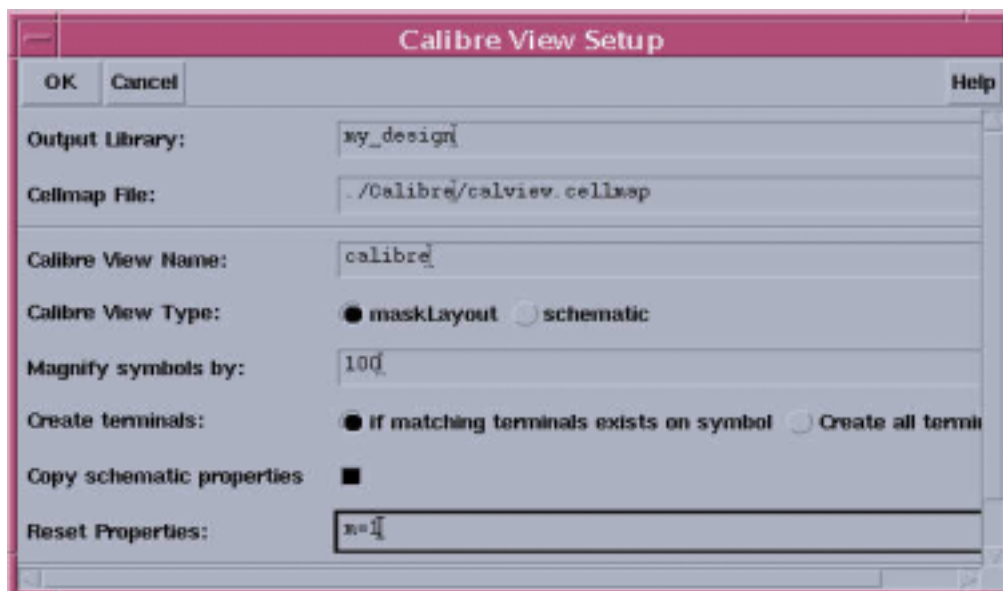

FIG. 38 Calibre view setup window
- Click “OK” to run the Calibre GUI RC extraction. After the extraction run is completed, a calibre view setup window pops up. Specify the “Cellmap File”, “Magnify symbols by” and make sure the “Copy schematic properties” button is on (fig 38).